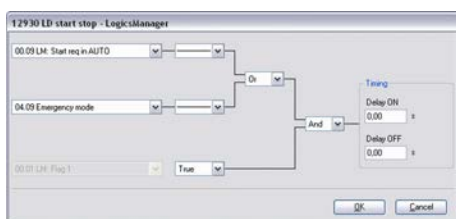

Fig. 161: LogicsManager function "LD start stop"
3. ➤ Configure the LogicsManager function "LD start stop" as shown in ( Fig. 161) to enable LDSS if a start request in automatic operating mode or emergency mode are enabled.